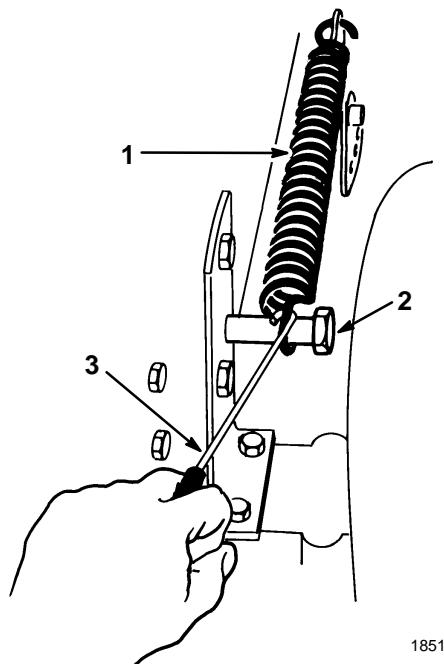

Figure 38
4. Remove the height-of-cut lift assist spring from the retaining bolt (Fig. 38), using the spring tool provided with the machine. The spring is between the frame and the right rear wheel.
13. Move the height-of-cut lever (deck lift) into the "D" notch. Hook lift assist spring onto retaining bolt for storage (Fig. 38).
15. Hook the height-of-cut lift assist spring onto the retaining bolt (Fig. 38), using the spring tool provided with the machine.